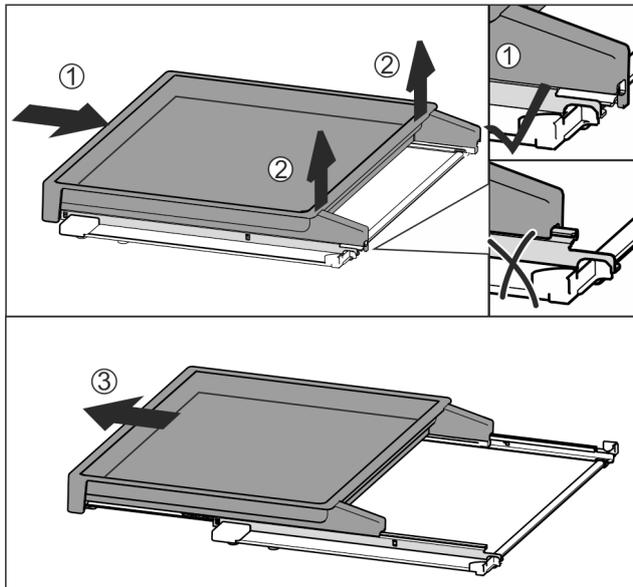

Fig. 36
- ▶ Slide the pull-out board all the way in Fig. 36 (1).
- ▶ Release the clips at the back Fig. 36 (2).
- ▶ Remove the pull-out board from the front Fig. 36 (3).